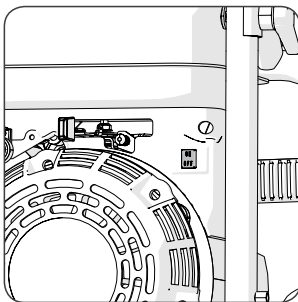

Fig. 4
- Turn the engine ignition switch to the 'OFF' position. **(Fig. 4)**